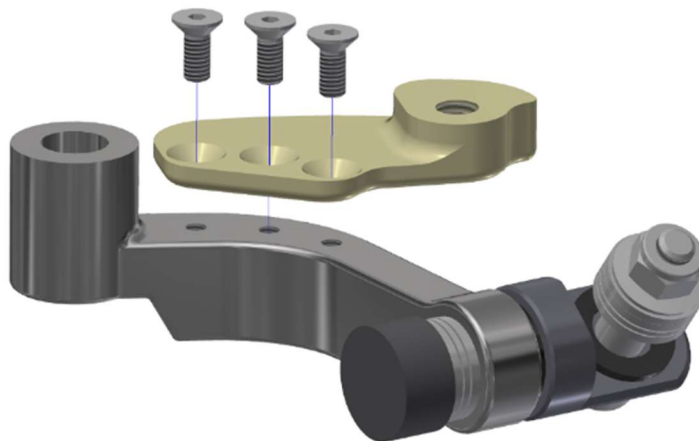

Figure 7-5. Separate the Upper Scapula (474-3506-1,2) from the Lower Scapula (474-3505-1,2)
- 7.2.2 Remove three M4 X 0.7 X 10 LG. FHCS separating the Upper Scapula (474-3506-1,2) from the Lower Scapula (474-3505-1,2) (Figure 7-5).